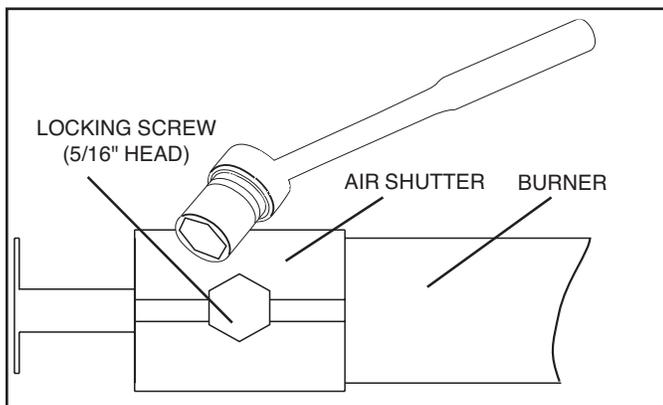

Figure 5 - Removing the Air Shutter Locking Screw
5. On all burners exhibiting an abnormal flame, loosen but do not remove the air shutter locking screw using a 5/16 inch wrench. (See Fig. 5 below.)